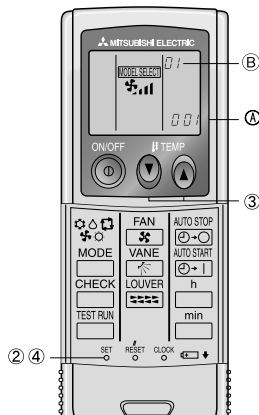

Fig. 6-4
2) Automatic fan speed setting (For IR wireless remote controller) (Fig. 6-4)